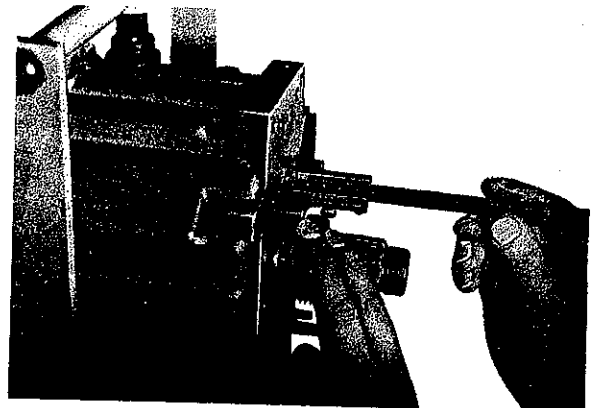

Fig. 53
3. Apply depth gauge to measure distance from bearing end to housing sealing surface (Fig. 53).